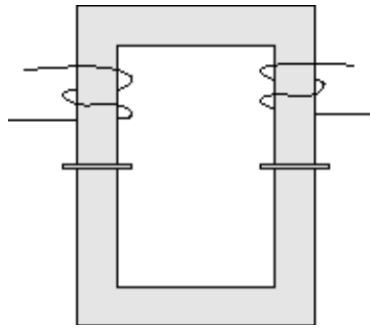

Figure 3: The ferrite cores with the two spacers in place.
6. Thin plastic spacers inserted between the two half cores (as shown in Figure 3) reduce the coil inductances drastically. Use this reduction to determine the relative permeability μ_r of the ferrite material, given Ampere's law and continuity of the magnetic field \mathbf{B} across the ferrite - plastic interface.